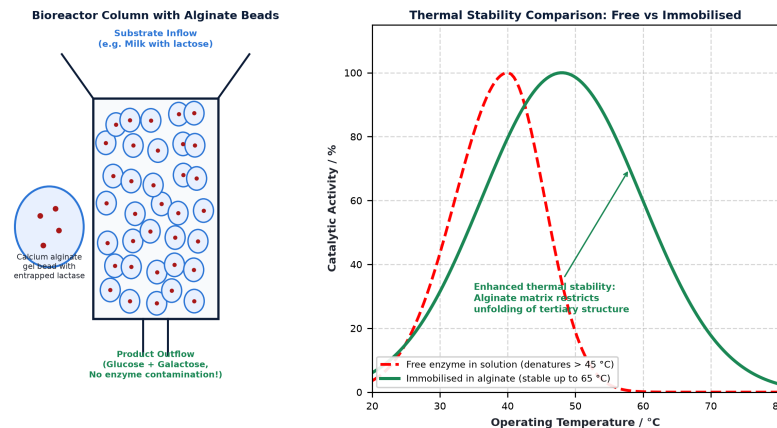

Fig. 3.13: Packed-bed bioreactor column (left) and thermal stability curves of free vs immobilised lactase (right).
In biotechnology, enzymes are frequently immobilized within porous calcium alginate beads. Fig. 3.13 shows a packed-bed bioreactor column and the thermal stability comparison between free and immobilised lactase.
- (c) With reference to Fig. 3.13, explain why the immobilised enzyme retains high catalytic activity at 60 deg C while the free enzyme is completely inactivated. [2]